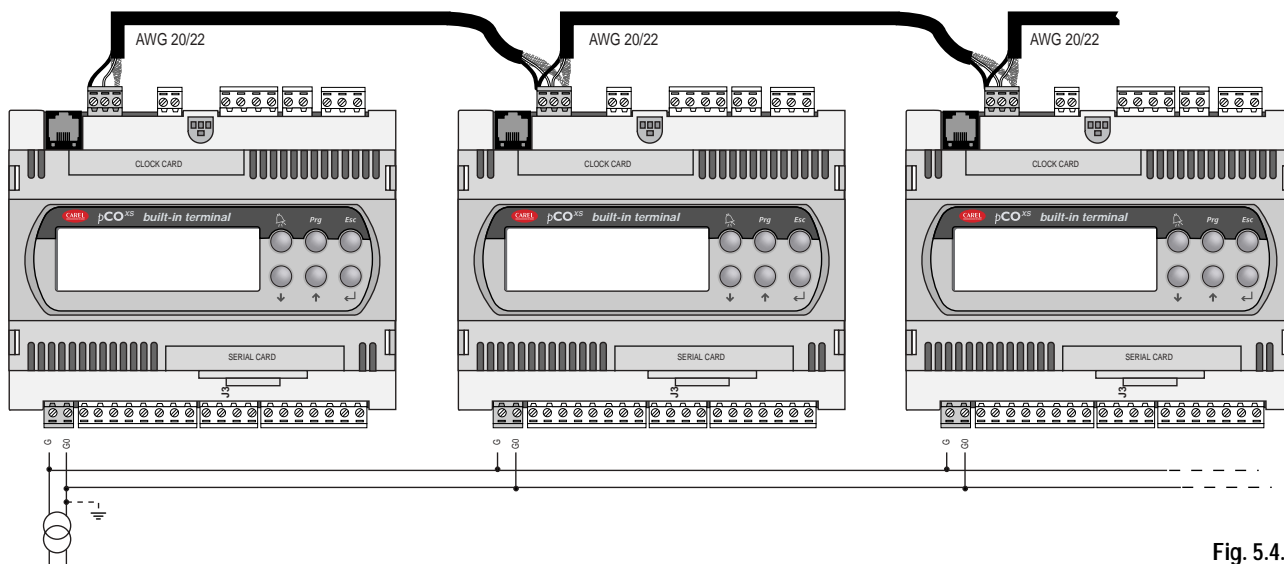

Fig. 5.4.1
La Fig. 5.4.1 rappresenta lo schema di più schede collegate in rete pLAN alimentate dallo stesso trasformatore, tipica applicazione all'interno di uno stesso quadro elettrico.
Fig. 5.4.1 shows a diagram of a number of boards connected in a pLAN network and powered by the same transformer, typical for a number of boards connected inside the same electrical panel.
- with these configurations (Figs. 5.4.1, 2) Class II safety transformers must be installed.